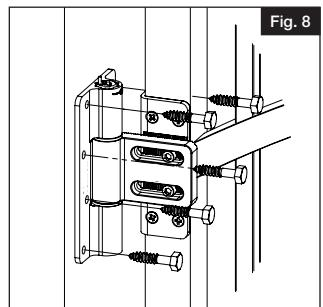

Fig. 8
- f.) Re-position gate and secure hinges with appropriate screws (Not provided), (Fig. 8).